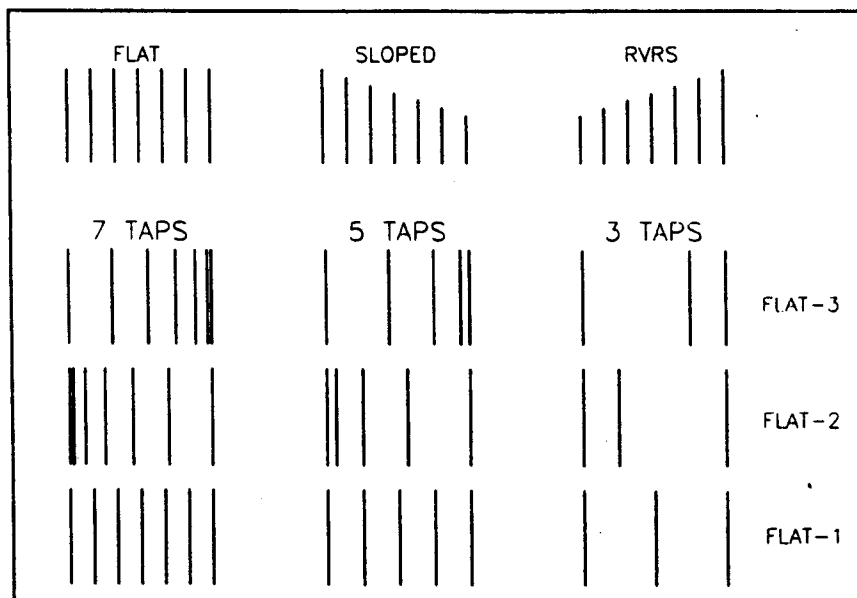

fig. 9
There are three levels of tapped delays in the SGE. These are what we call Even (E), Shortened (S), and Lengthened (L). See fig. 9 for a graphic representation. (1's are Even, 2's are Shortened, 3's are Lengthened) Even means that the delay taps are at evenly spaced intervals. Shortened means that as the taps approach the set delay, the intervals are closer together. As the taps approach the set delay in the Lengthened mode they are farther apart. In the types you will see an [m] and an [s], the [m] means mono and the [s] signifies stereo. The mono tapped delay has its left and right taps at the same delay points where the stereo taps are staggered. When using the stereo tapped delays the first right tap is half the delay time before the first left tap. There also are three slopes used in the tapped delays, Flat, Reverse and Forward.
Flat has a flat linear response. Reverse exponentially increases in amplitude as the signal approaches the end. Forward exponentially decreases in amplitude as the signal approaches its end point. See figure 9. TYPE 3 taps are dense and full.